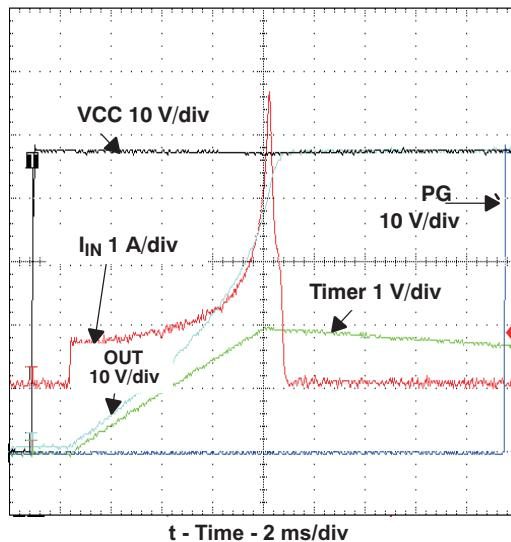
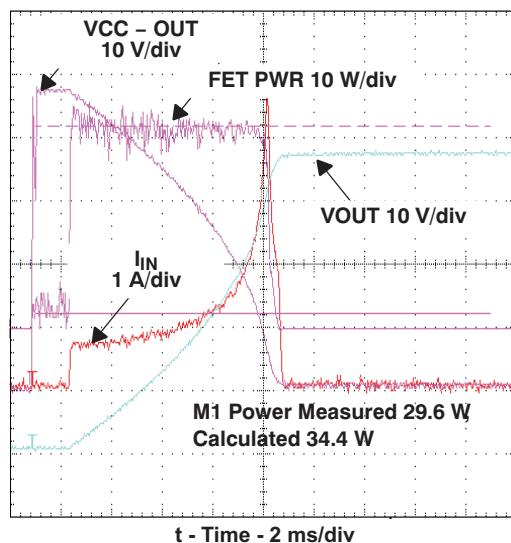
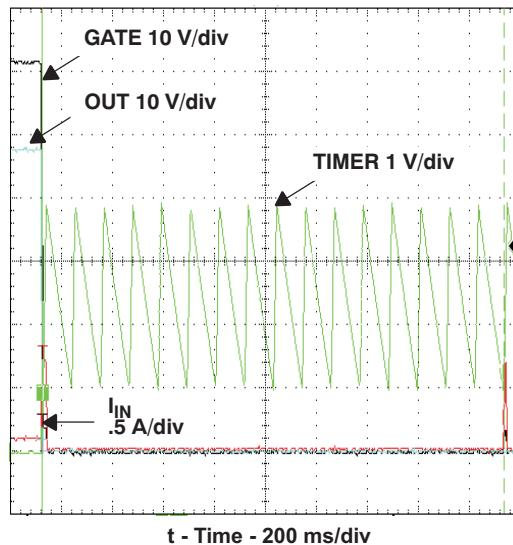

Figure 13. Basic Board Insertion
Figure 14. Computation of Q1 Stress During Startup
Figure 17. TPS2491 Restart Cycle Timing
A capacitor may be tied from PROG to ground to alter the natural constant power inrush current shape. If properly designed, the effect is to cause the leading step of current in Figure 13 to look like a ramp.
The typical application circuit, and oscilloscope plots of Figure 13 through Figure 17 demonstrate many of the functions described Device Functional Modes.
7.4.1 Board Plug-In (Figure 13)
7.4.2 TIMER and PG Operation (Figure 13)
7.4.3 Action of the Constant Power Engine (Figure 14)
The calculated power dissipated in Q1, $V_{DS} \times I_D$, is computed under the same startup conditions as Figure 13 . The current of Q1, labeled I_{IN} , initially rises to the value that satisfies the constant power engine; in this case it is $34\text{ W} \div 48\text{ V} = 0.7\text{ A}$. The 34 W value is programmed into the engine by setting the PROG voltage using Equation 2 given in the PROG. V_{DS} of Q1, which is calculated as $V_{(SENSE_OUT)}$, falls as C_O charges, thus allowing the Q1 drain current to increase. This is the result of the internal constant power engine adjusting the current limit reference to the GATE amplifier as C_O charges and V_{DS} falls. The calculated device power in Figure 14, labeled FET PWR, is seen to be flat-topped and constant within the limitations of circuit tolerance and acquisition noise. A fixed current limit is implemented by clamping the constant power engine's output to 50 mV when V_{DS} is low. This protection technique can be viewed as a specialized form of foldback limiting; the benefit over linear foldback is that it yields the maximum output current from a device over the full range of V_{DS} and still protects the device.
7.4.5 Automatic Restart (Figure 17)
A capacitor can be connected from the PROG pin to ground to reduce the initial current step seen in Figure 13 based on the Typical Application circuit. This method maintains a relatively fast turn-on time without the drawbacks of a gate-to-ground capacitor that include increased short circuit response time and less predictable gate clamping.